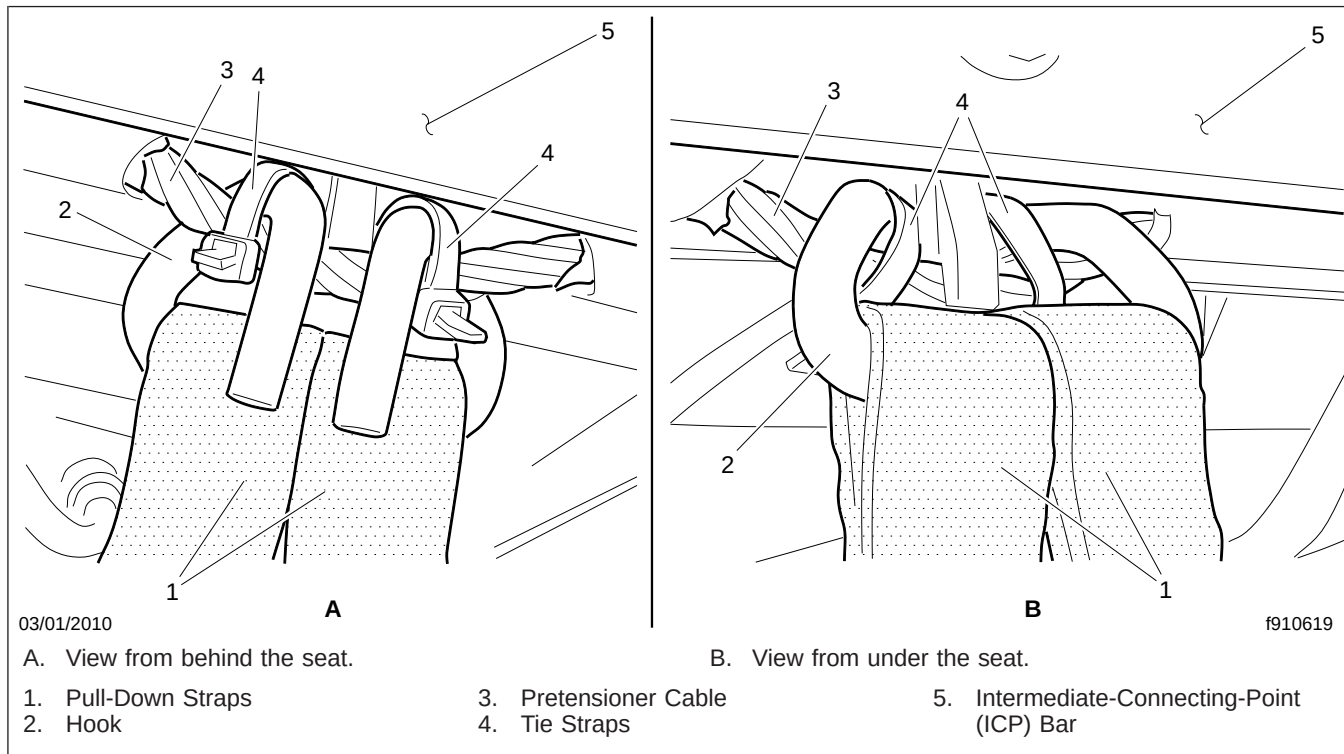

Fig. 2, Pulldown-Strap Hook, J1587/J1708 RollTek System
8. *For J1587/J1708 RollTek systems*, cut the tie straps that secure the pulldown-strap hook to the seat belt pretensioner cable; see Fig. 2.
15. Hook the pulldown straps to the seat belt pretensioner cable; see Fig. 2.
16. *For J1587/J1708 RollTek systems*, secure the hook to the pretensioner cable with two tie straps, as shown in Fig. 2.